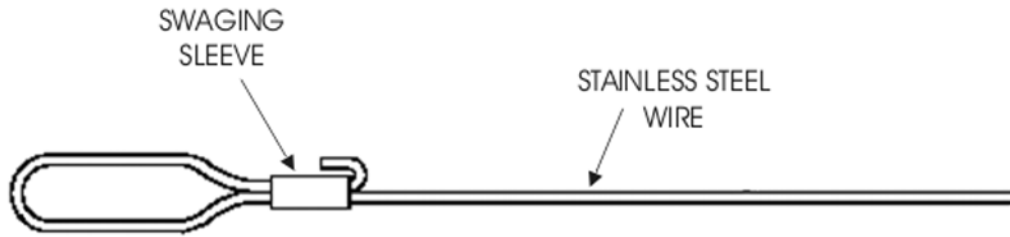

Figure E-2. Arming Wire, Altered, 7116338
- e. Remove arming wire guide to be left with arming wire as shown in Figure E-2.